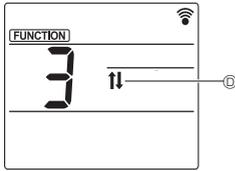

Fig. 5-3
1. In the Function setting screen, press the button ④ and select function No. "3".
2. Press the button ③.
- The ascending/descending mark ① blinks. (Fig. 5-3)
3. Press the button ④ or the button ⑤.